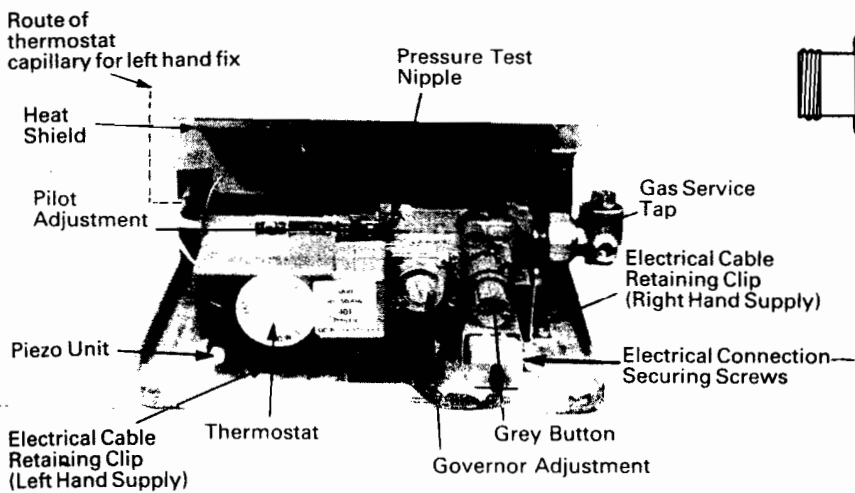

Fig. 7. Boiler Controls
- (e) Route the thermostat capillary under the heat shield and up the left hand side (Fig. 7). The thermostat phial now fits in the pocket at the **LEFT HAND SIDE IN THE LOWER SECTION**.
The recommended cable for the connection to the boiler terminal trip is 0.75mm² – 24/0.20 PVC heat resistant grade (70°C). To BS 6500 Table 16. It is preferable to have the electrical supply cable coming from the right hand side of the builders opening. If however it must come from the left hand side it must be fitted to the alternative clip provided (Fig. 7). It is important to route any input cable to avoid contact with the combustion box sides.
6. Turn the boiler thermostat to the "OFF" position (Fig. 7).
8. Slacken the test point sealing screw and connect a pressure gauge (Fig. 7).
9. Hold in the grey button on the gas control valve (Fig. 7).
To connect the electrical wiring to the boiler proceed as follows. (Fig. 7).
- (h) Clamp the cable to the boiler base with the plastic 'P' clip and screw found in the kit. (Fig. 7).
yellow tip and approximately 25mm (1in) long. Adjust if necessary (Fig. 7).
14. Remove the cover screw and adjust the appliance governor (Fig. 7) to the setting pressure corresponding to the required input. Check the pressure after ten minutes burning time and adjust if necessary. Adjust the input indicator arrow on the data label if necessary.